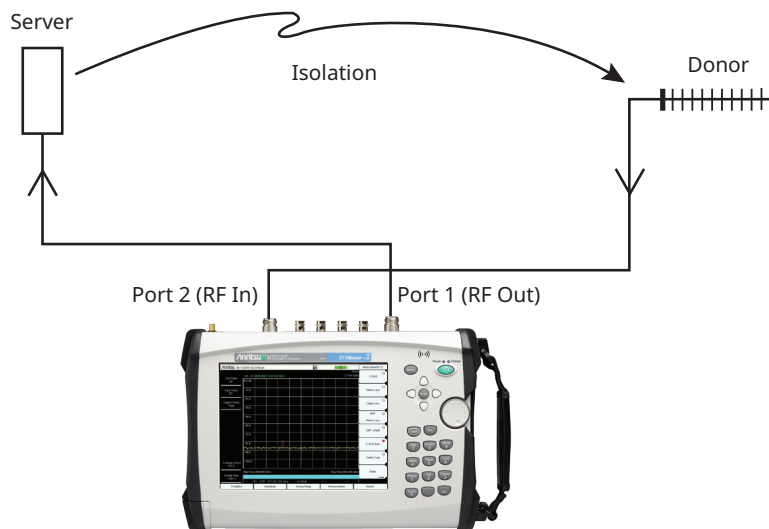

Figure 12: Antenna Isolation Connection Diagram
- Connect the MT8220T as shown in Figure 12. Note: port 1 (RF Out) is connected to the server antenna; port 2 (RF In) is connected to the donor antenna